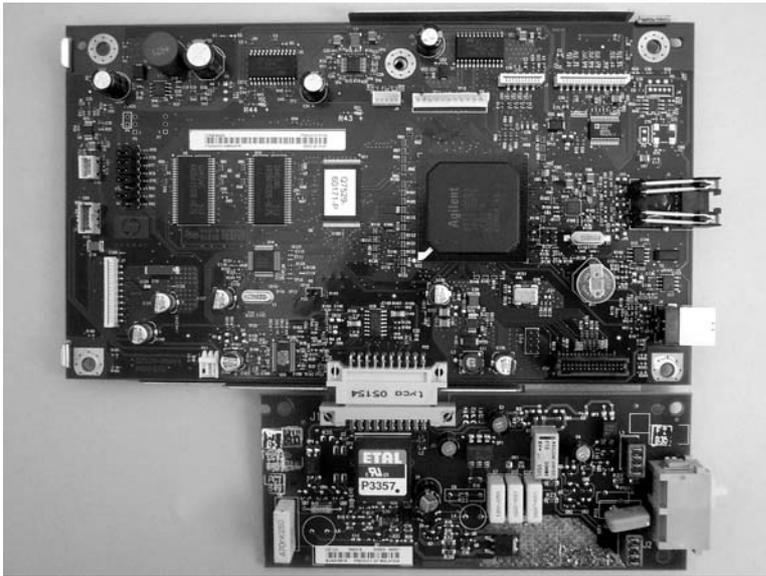

Figure 5-124 HP LaserJet 3055 all-in-one formatter and LIU
- Figure 5-124 HP LaserJet 3055 all-in-one formatter and LIU on page 180 shows the formatter and LIU from an HP LaserJet 3055 all-in-one.